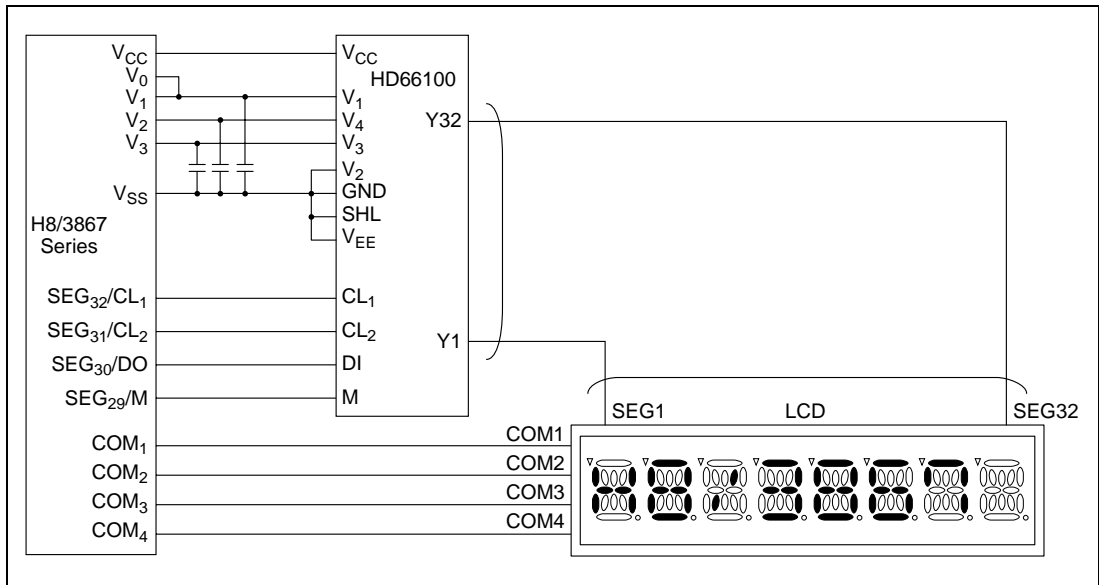

Figure 1 LCD Module to HD66100 Connection and LCD Display Example
5. An example of LCD module to the HD66100 connection and an LCD display example for this task example appear in figure 1.